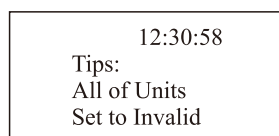

Figure 5
D. If all the 16 units are set to invalid, the system will always display the "tips" interface in the working state, as shown in Figure 5.